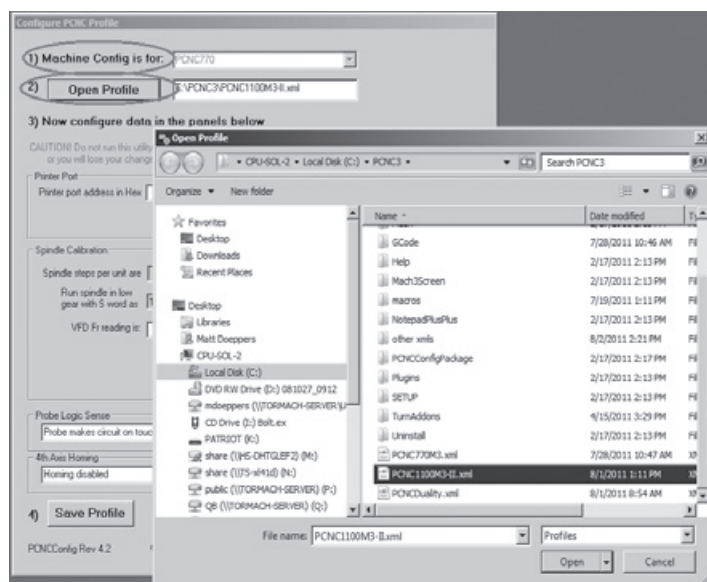

Figure 9.10: Opening the Profile
- Open the PCNCConfig software program located under “Programs” on your “Start” menu. This will have been installed when you installed the control software. Click the “Open Profile” button and choose the machine profile you wish to modify (figure 9.10). The profile for the PCNC 1100 is: